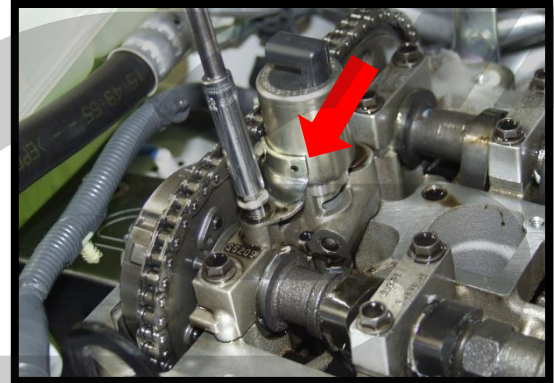

Figure 7b
- f) Replace the oil control valve (Figure 7b). Torque to 71-102 in-lbs.